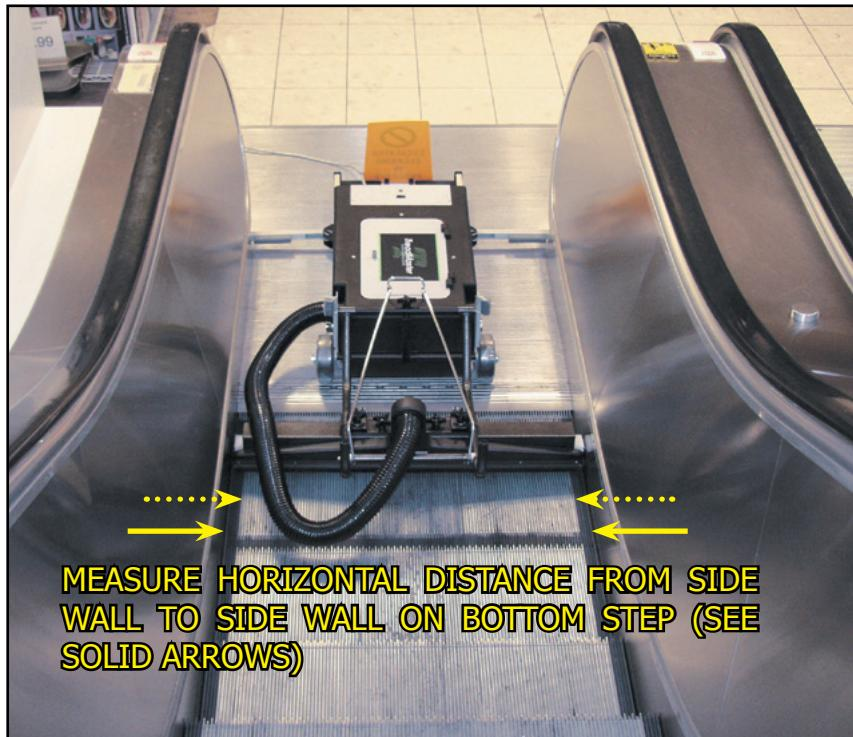

Figure 2. Accurate Measurements Needed Before Ordering Brush and Head Assembly
To properly measure the escalator or moving sidewalk, refer to Figure 2 and follow these guidelines:
1. With a measuring device, measure the horizontal distance from side wall to side wall, on the bottom step (see solid arrows in Figure 2).
If safety brushes are installed on the escalator or moving sidewalk, measure the horizontal distance from brush tip to brush tip, on the bottom step (see dashed arrows in Figure 2).